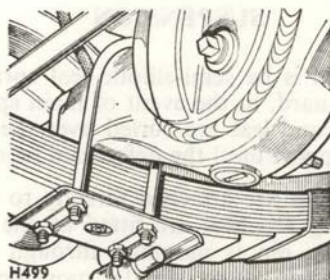

Fig. 72 Road springs
- (1) The U-bolt nuts (Fig. 72) should be tight.
- (2) Examine the spring leaves for cracks or displacement and correct as necessary.
- (3) Check that leaf clips (Fig. 72) are tight.
- (4) Check that all damper retaining nuts are tight.
- (5) Check the spring bushes for excessive wear or damage and replace as necessary.
- (6) Check that the bump rubbers are secure and undamaged; replace as necessary.
- (7) Ensure that the check straps are not excessively worn or damaged, and that the securing bolts are tight.
- (8) Check the hydraulic dampers by bouncing each corner of the vehicle in turn. Uniform movement would indicate that no attention is required, but if the damping effect is slight or erratic, the damper should be renewed.